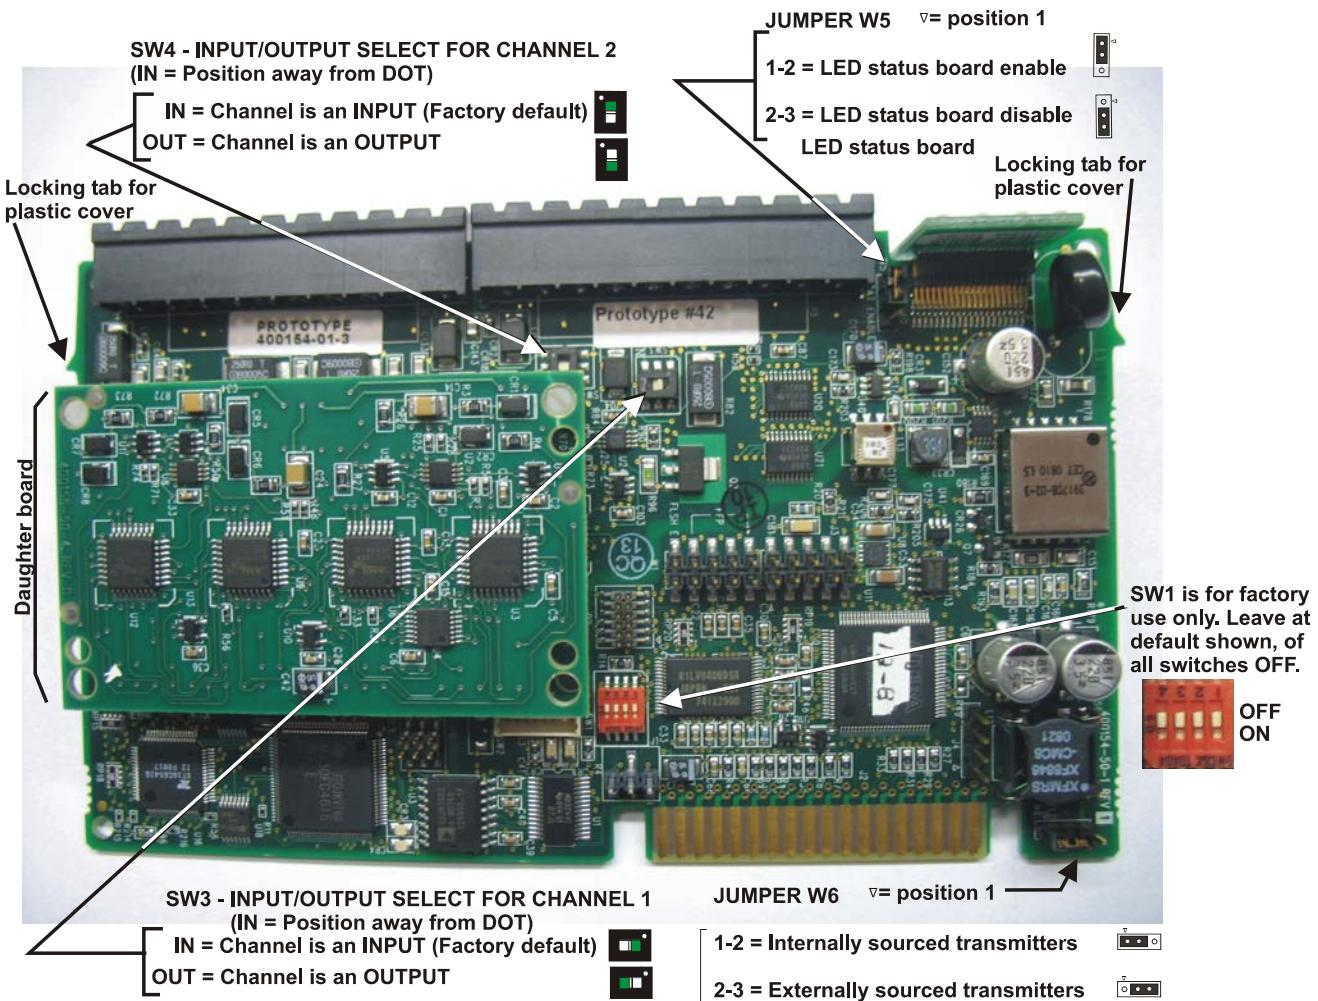

Figure 3-35. Switches and Jumpers on the HART/BTI Interface Module
Settings for SW3 and SW4 must be consistent with the I/O configuration of the corresponding channels in ControlWave Designer. To find the location of the switches on the board, see Figure 3-35.
**Setting Jumpers** To locate jumpers, see Figure 3-35.